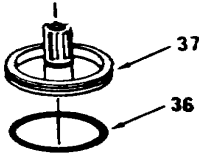

Figure 6-40.
- 6. Install new preformed packing (36) onto piston (37, Figure 6-40).